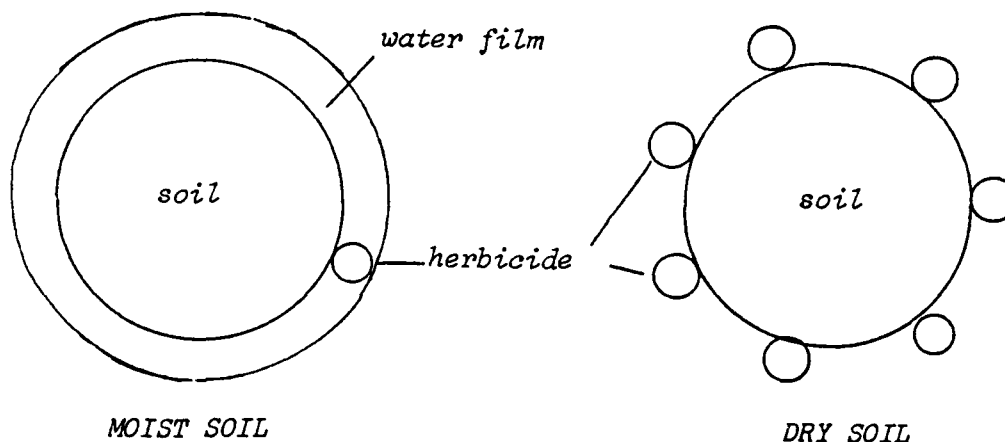

Figure 6-4. Water can compete with herbicides for adsorption sites.
4. **Soil moisture.** We now know that water can compete with the herbicides for adsorptive sites on the soil colloids. This is illustrated in Figure 6-4. In the case of volatile materials applied to the soil surface, loss is much greater from a moist soil than from a dry soil. The volatile herbicide can be adsorbed more quickly and more completely on the dry soil and is not lost so readily into the atmosphere whereas on the wet soil the water prevents it from being adsorbed and herbicide loss is great. On the other hand, with herbicides that tend to be adsorbed too much for optimum activity anyway and that are not volatile, we may consider it desirable that less of it is adsorbed. For example, when we apply diuron for ryegrass control in wheat, we find that the material is less effective when applied to a dry soil. Results are